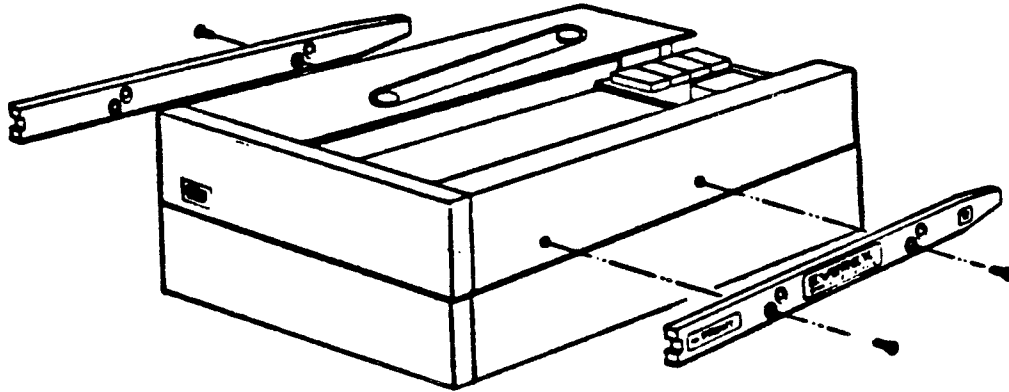

Figure 1-4. Location of Guide Rails
9. Mount guide rails to the MTCS on both sides (refer to Figure 1-4).